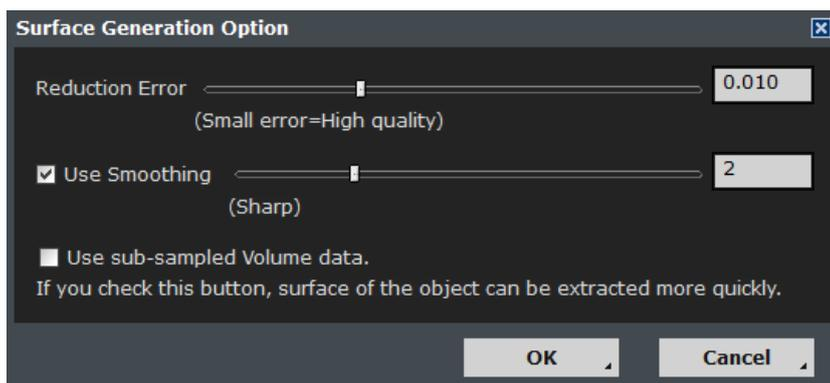

Fig. 397 [Surface Generation Options]
**Windowing.** The [Windowing] button offers windowing presets available on OnDemand3D™, organized by modalities, as shown below in Fig. 397.